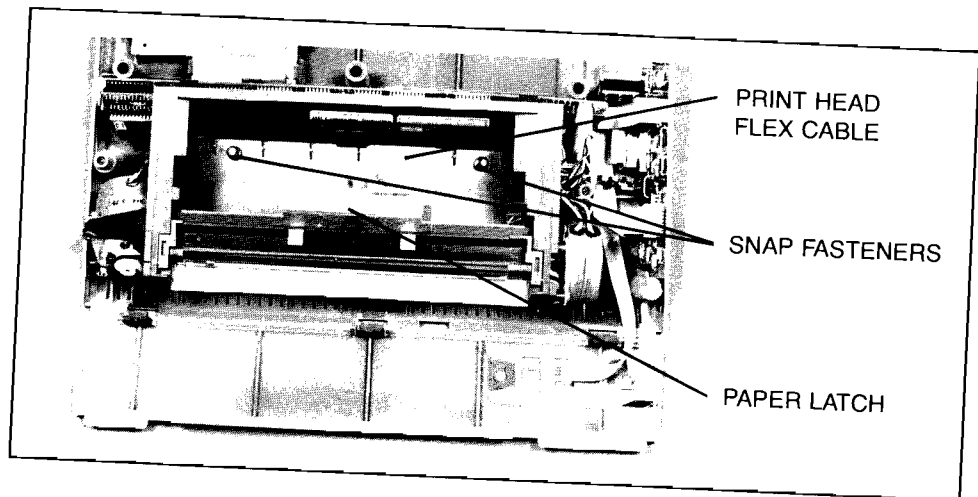

Figure 6-2. Printer Removal
3. Carefully disconnect print head flex cable from TPM PCA connector (see **Figure 6-2**).